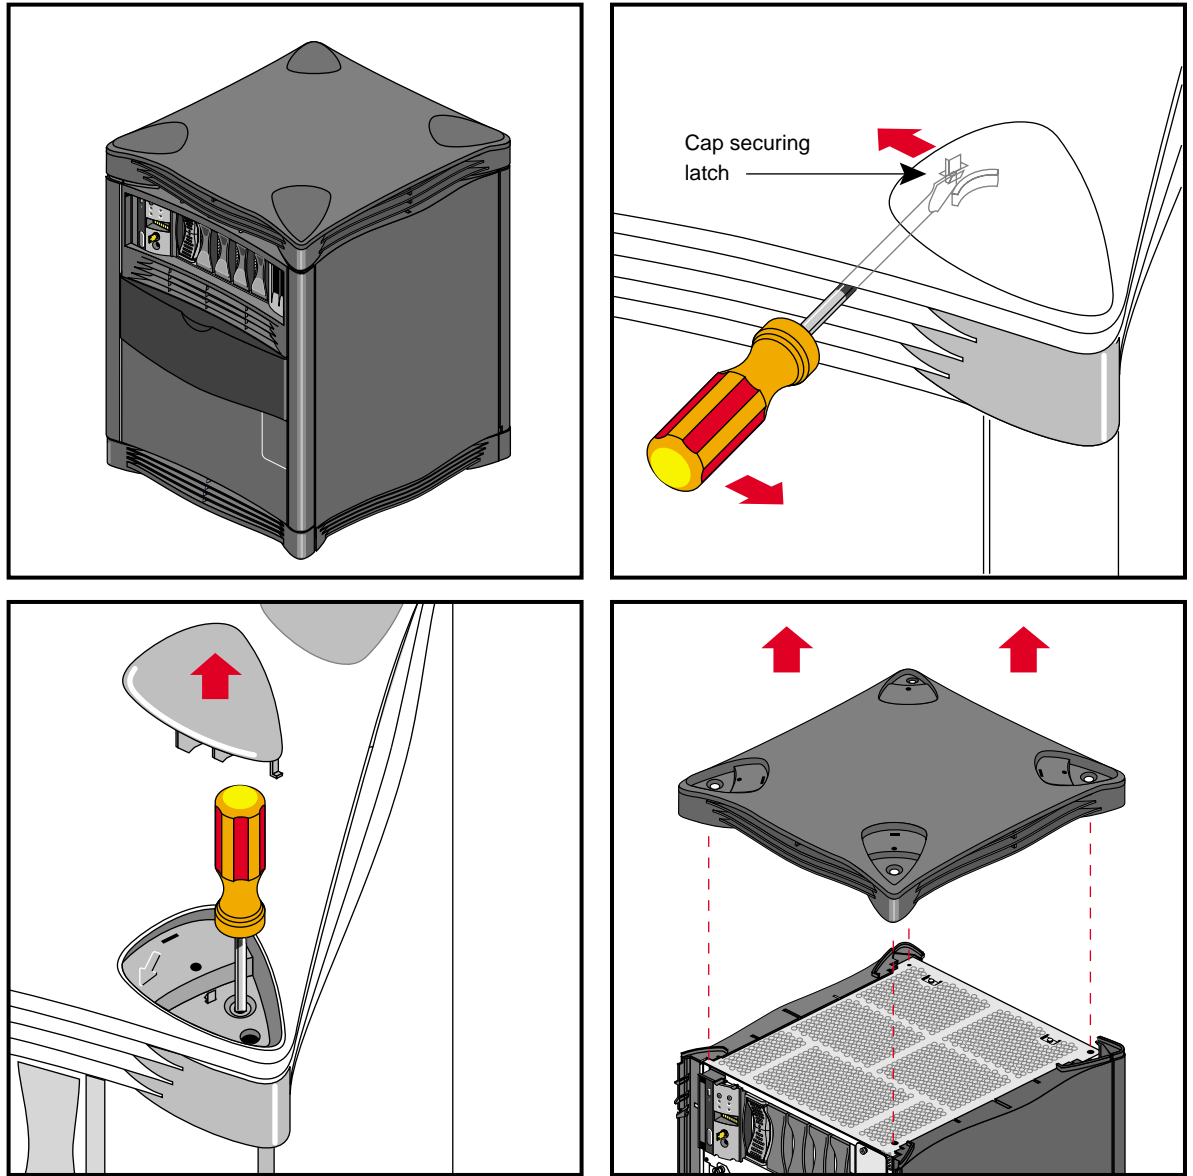

Figure 3-3 Removing the Top Plastic Panel
4. To remove the top cover you must first remove the four corner-positioned cover "caps" by using a screwdriver to release the latch for each one (see Figure 3-3).